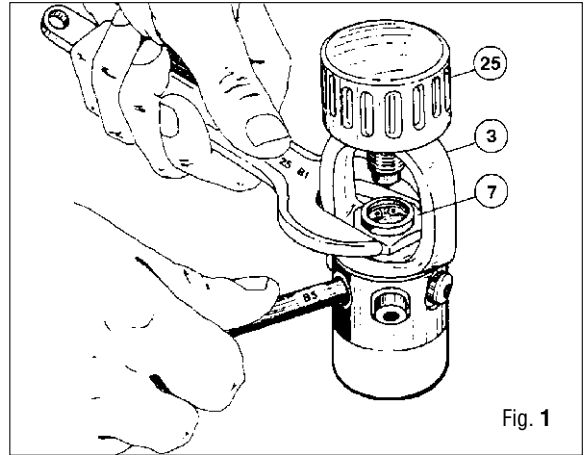

Fig. 1
2. Remove yoke retainer nut (69) using the special wrench (B-1), then remove the yoke (3) and yoke knob (25). (Fig. 1)